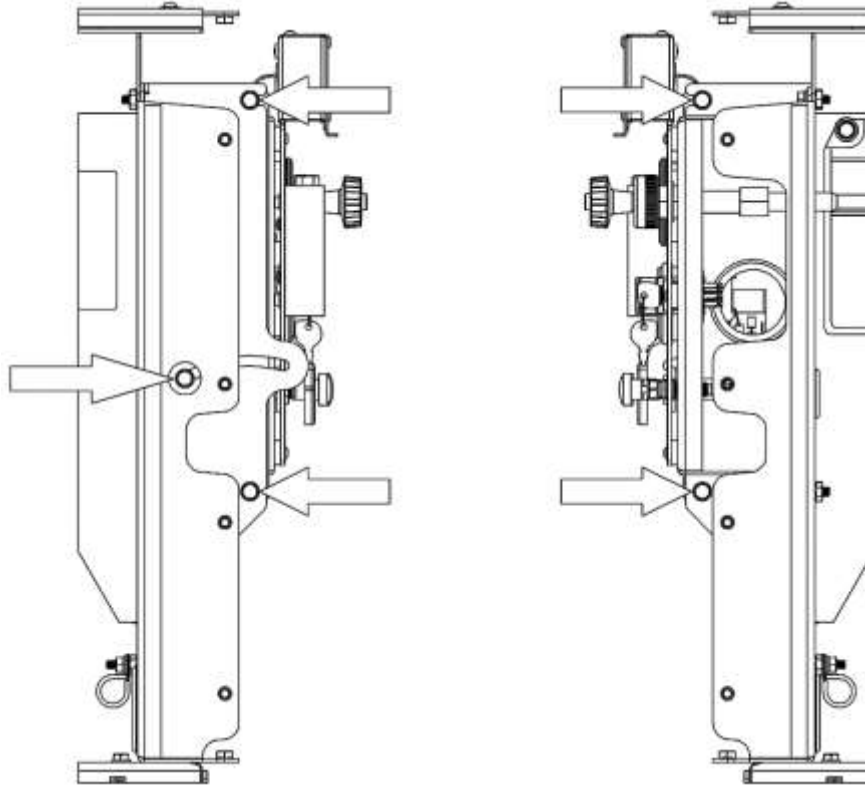

Figure 2 - Right and Left Side Views
3. Using a 3/8" socket and 6-inch extension, loosen the retaining screws (as shown in Figure 2). Do not completely remove these screws.